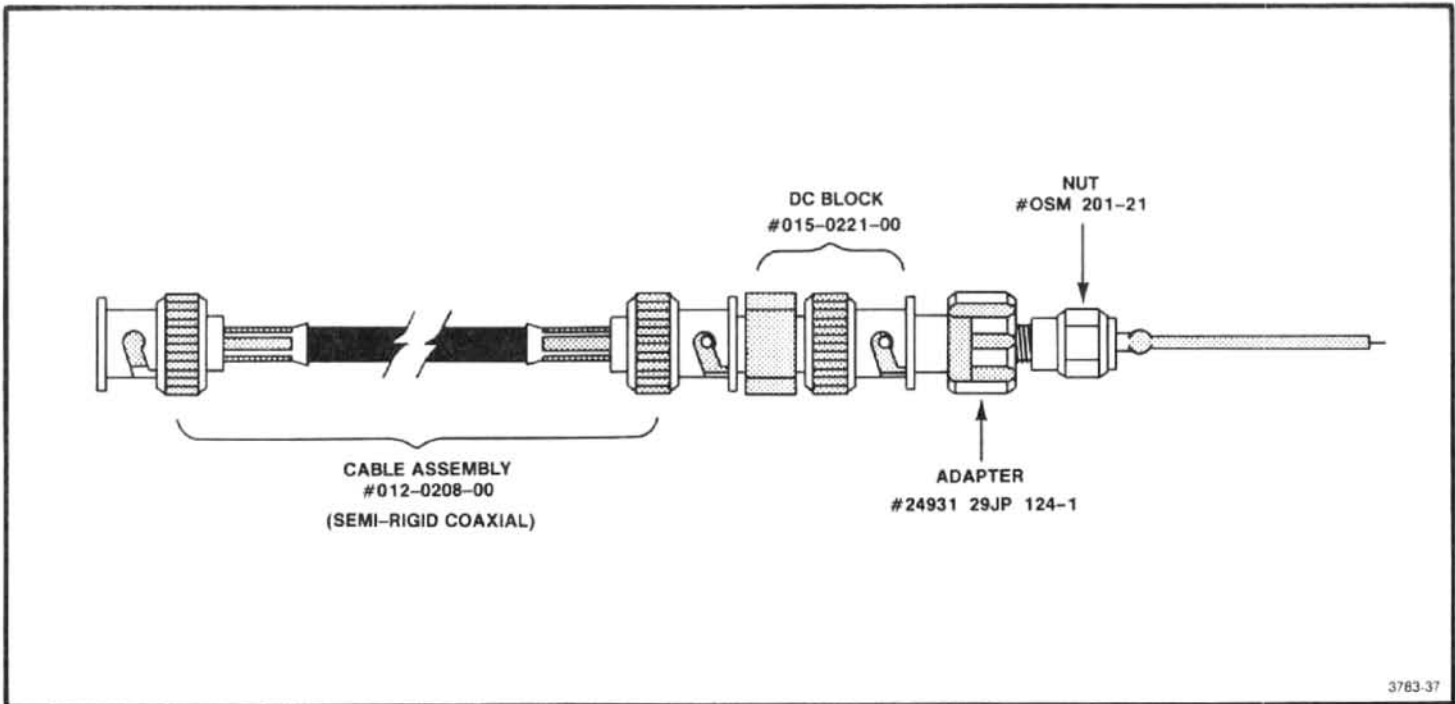

Figure 6-21. Construction details of a coaxial test probe for the 2182 MHz Phase Locked 2nd LO.
a. Use a probe, consisting of a short length of semi-rigid coaxial cable with a dc block (see Figure 6-21), to connect the output of the reference mixer at C2204 to the input of the test spectrum analyzer. Ground the outer shield of the coaxial cable against the 2nd LO housing.
When making power measurements of microwave circuitry at circuit board interfaces, use a coaxial probe with very little stray inductance (see Figure 6-21). Ground the outer conductor of the probe to the circuit housing as close as possible to the measurement port. Disconnect other loads from the measurement point.